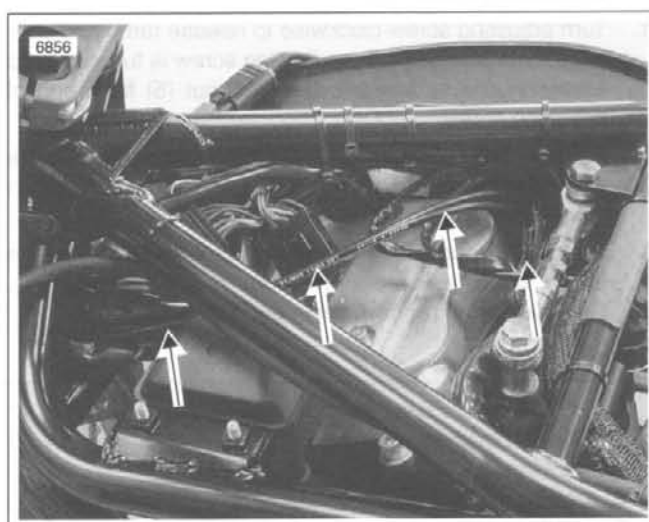

Figure 2-130. TBM Routing
- c. See Figure 2-130. Route cables below the fuel tank and continue downward.